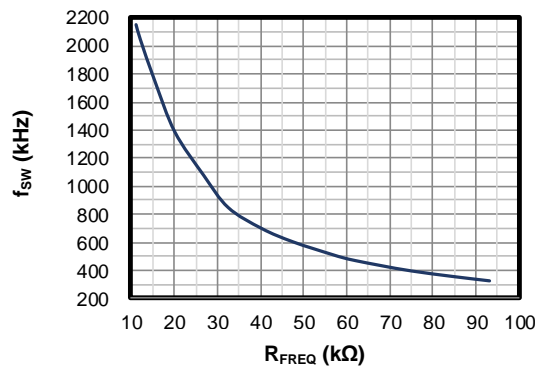

Figure 1: f_{SW} vs. R_{FREQ}
7. The MPQ4316A's switching frequency (f_{SW}) can be configured by R3, the FREQ pin's resistor (R_{FREQ}). R3 can be estimated based on the relationship between f_{SW} and R_{FREQ} (see Figure 1).